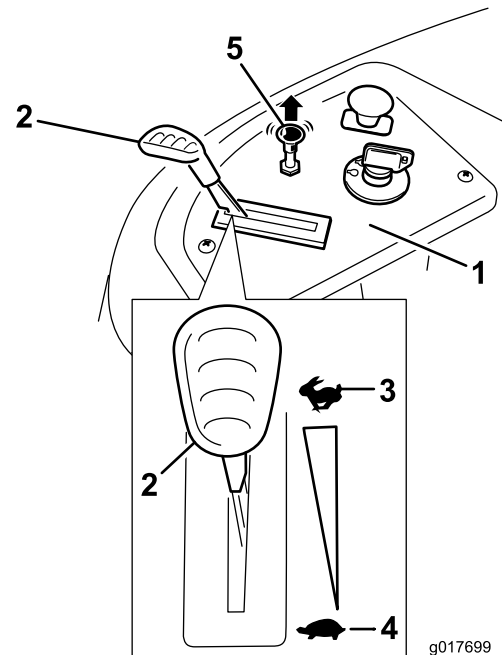

Figure 13
4. Pull up on the Choke control before starting a cold engine (Figure 13).
2. Move the throttle lever to between the Fast and Slow position (Figure 13).